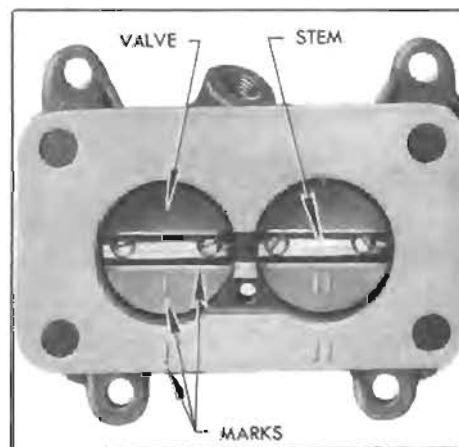

Figure 3-65—Identification Marks on Throttle Valves
15. Before throttle valves are removed, they should be marked so that each valve may be re-installed in the barrel from which it was removed and may be accurately positioned in the barrel of throttle body. Using a sharp scribe, lightly scratch one line on one valve and its barrel and two lines on the other valve and barrel; also scribe lines on each valve along both edges of the valve stem. See figure 3-65. After marking the parts remove screws and slide valves out of stem.